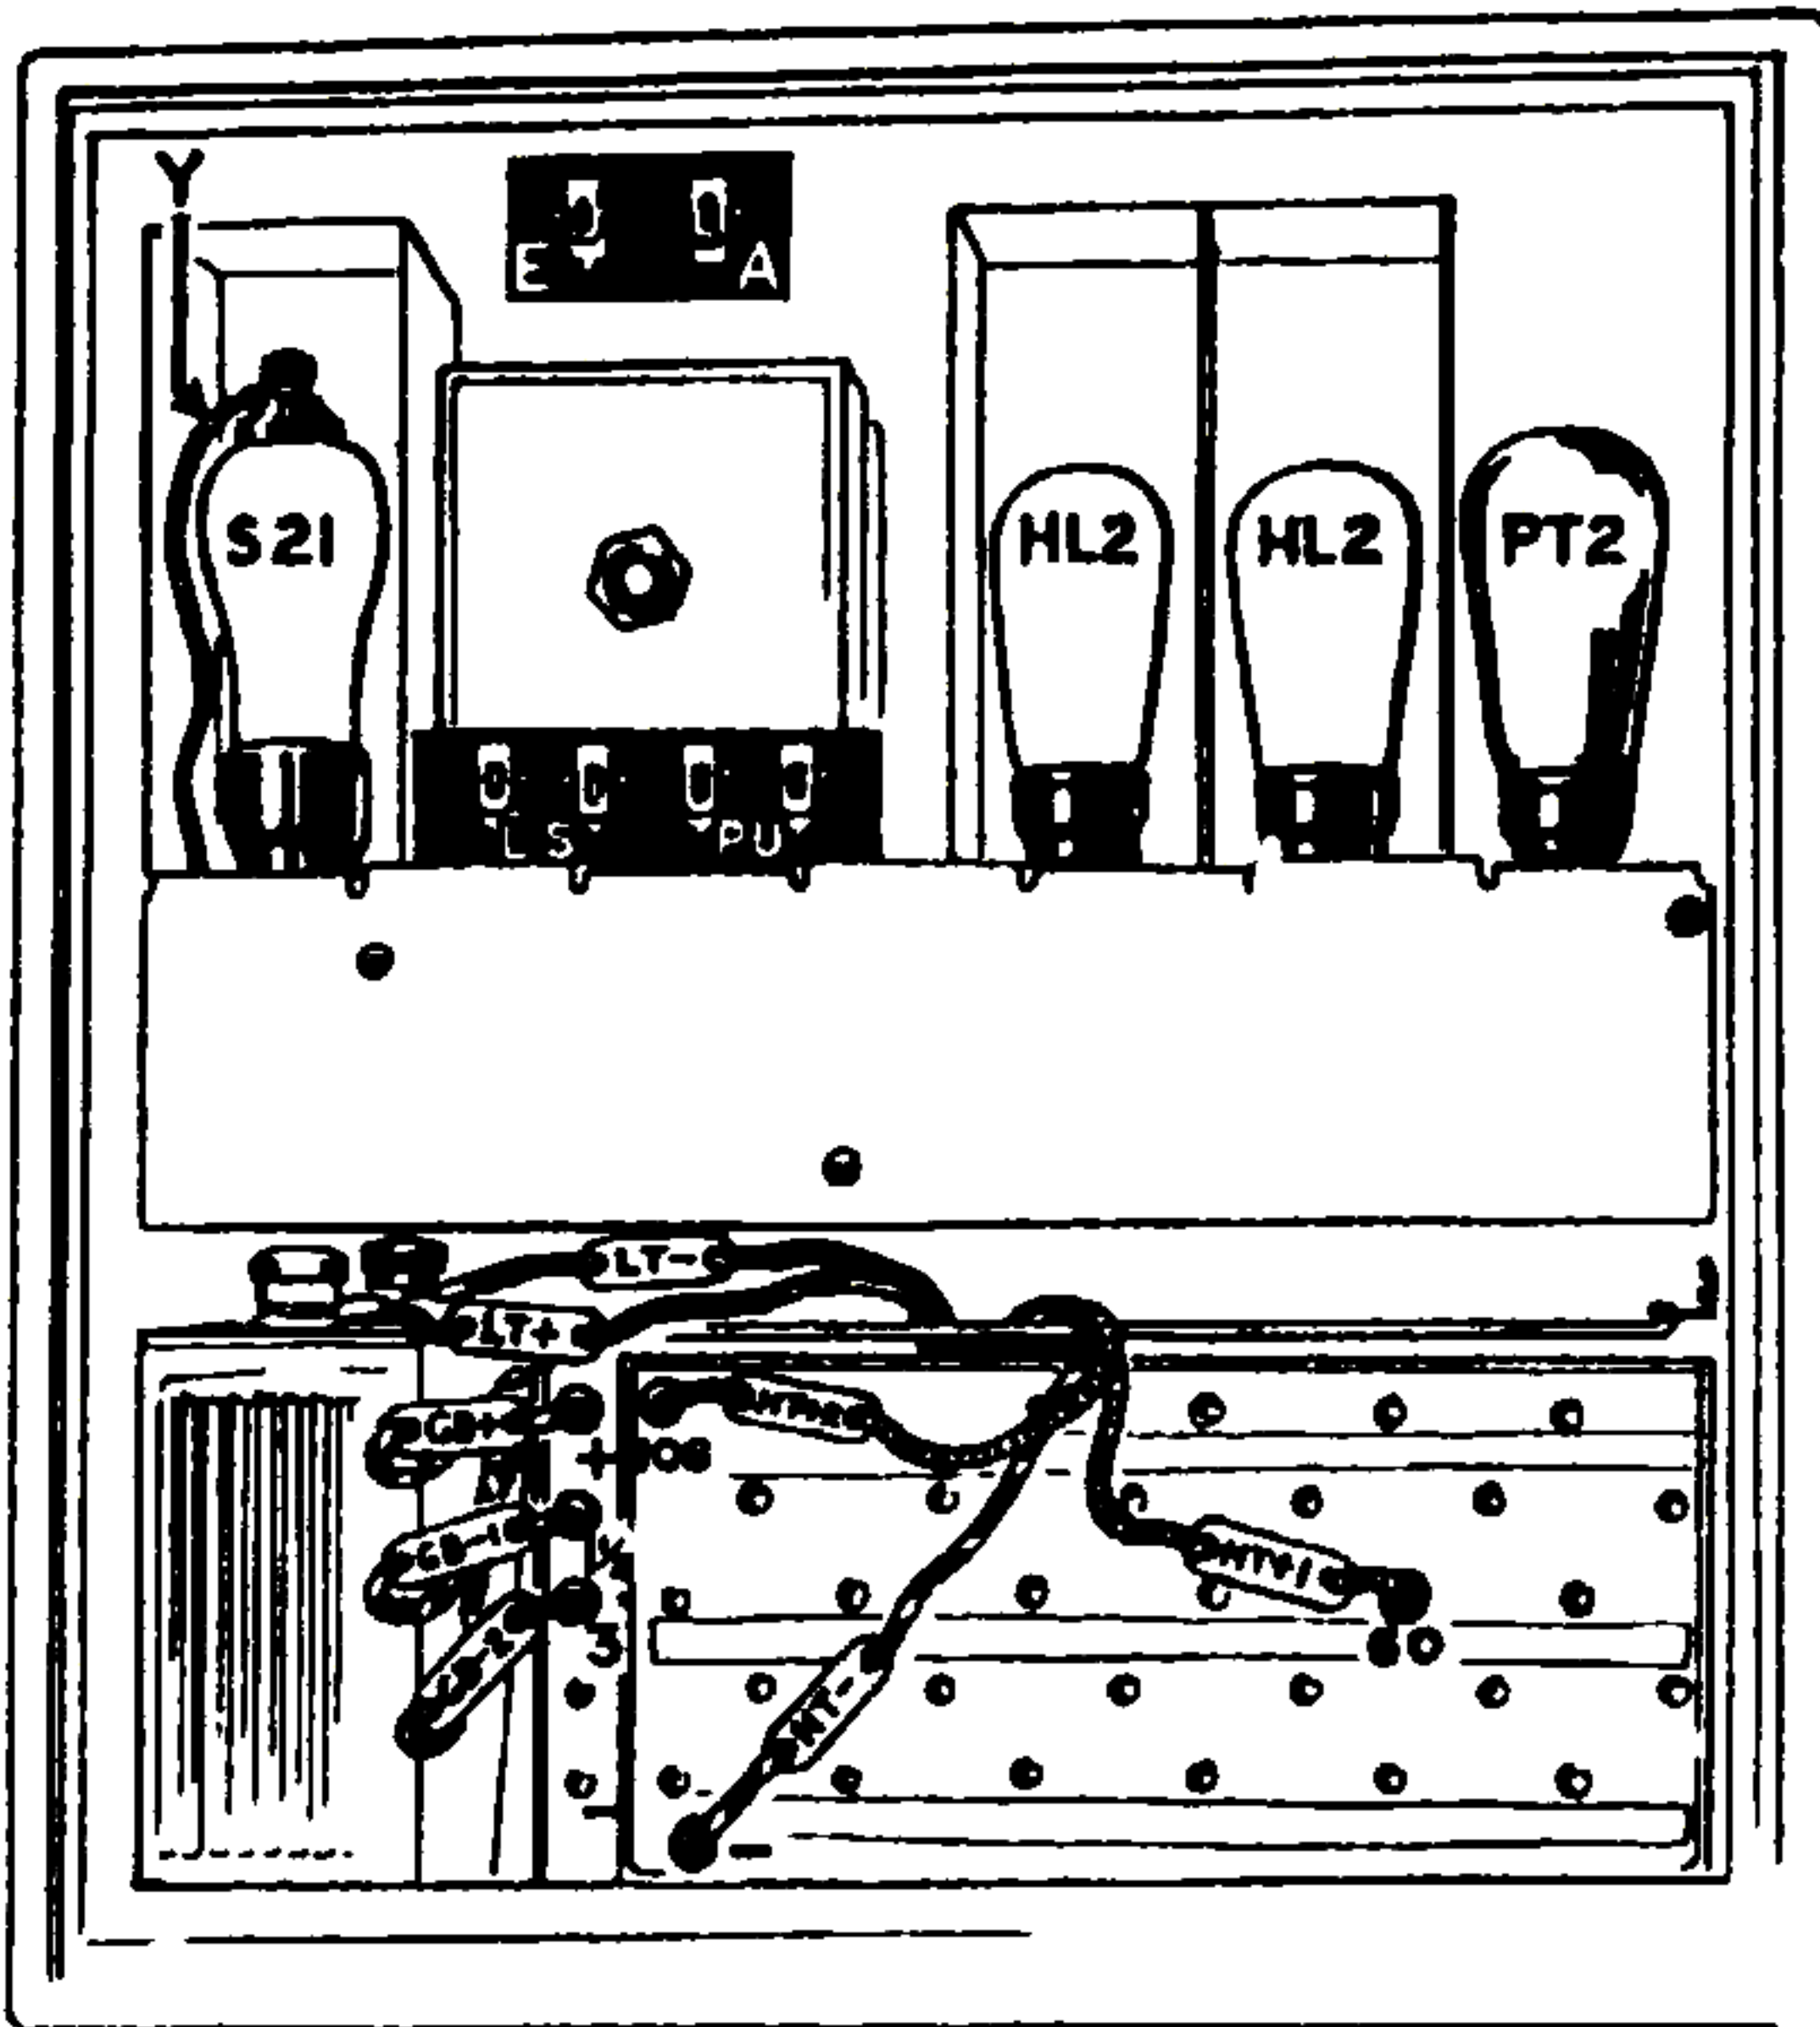

Fig. 1.
Insertion of Valves. (Fig. 1.)
2. Insert the valves in the sockets in the following order. (See Fig. 1) :—
S21 first attaching tag " Y " (Fig. 1) firmly to the terminal on top of the valve.
INSERTION OF BATTERIES. (See Fig. 1.)
1. Insert accumulator in left hand of lower compartment, as shown in Fig. 1.
1. Remove large knurled-head nut from the battery securing rod in the lower compartment and swing out metal bracket. Insert the high tension battery with the grid battery next to it, so that the " + " socket of the grid battery and the 108-volt socket of the high tension battery are uppermost, the grid battery being on the left of the high tension battery ; then insert the screwed end of the rod in the metal bracket and screw up tightly with the nut so that grid and high tension batteries are firmly gripped in position shown in Fig. 1.
4. Check over all plugs and sockets by tables and Fig. 1 ; make sure all plugs are tight.
The instrument is provided with clip contacts marked A and E (Fig. 1). The attachment of these contacts to aerial and earth wires passed through one of the holes in the back door of the cabinet, will be of assistance in areas where reception conditions are difficult and when the instrument is placed where it may not be conveniently rotated.
An electrical pick-up may be connected to the terminals PU (Fig. 1).